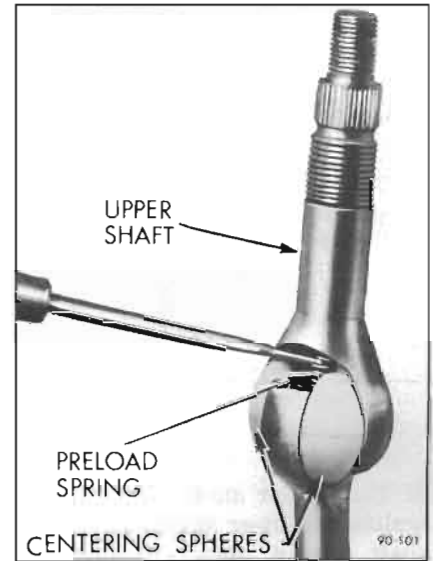

Figure 90-101—Removing Joint Preload Spring
2. Using a narrow bladed screwdriver, compress joint preload spring enough to remove from upper shaft, then remove spring from centering spheres. See Figure 90-101.